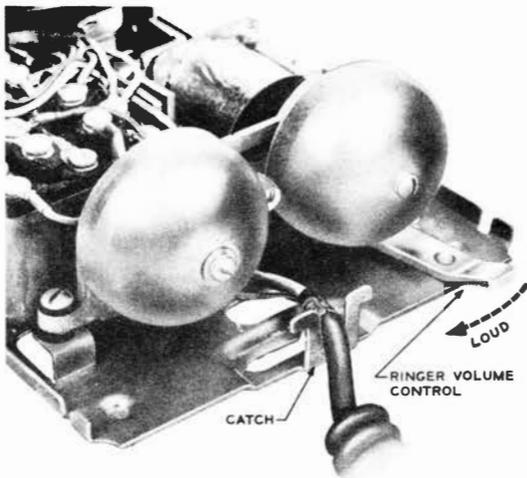

Fig. 34 - 554- or 556-type Set, Ringer Volume-control Lever
4.08 The ringer volume-control lever in the 554- and 556-type telephone sets is riveted at one end to the base of the set (see Fig. 34). In the 500-type telephone set, the ringer volume-control assembly is part of the ringer.